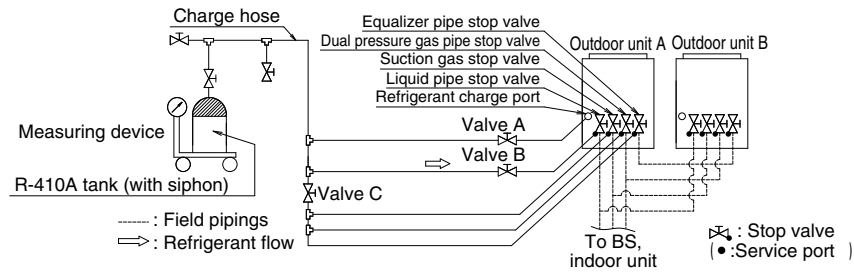

figure 14
- Open the valve B (See the figure 14. The valve A,C and the liquid pipe, suction gas pipe, dual pressure gas pipe, equalizer pipe stop valves must be left closed), and charge the refrigerant of the “additional charging amount” from the liquid side shutout valve service port.